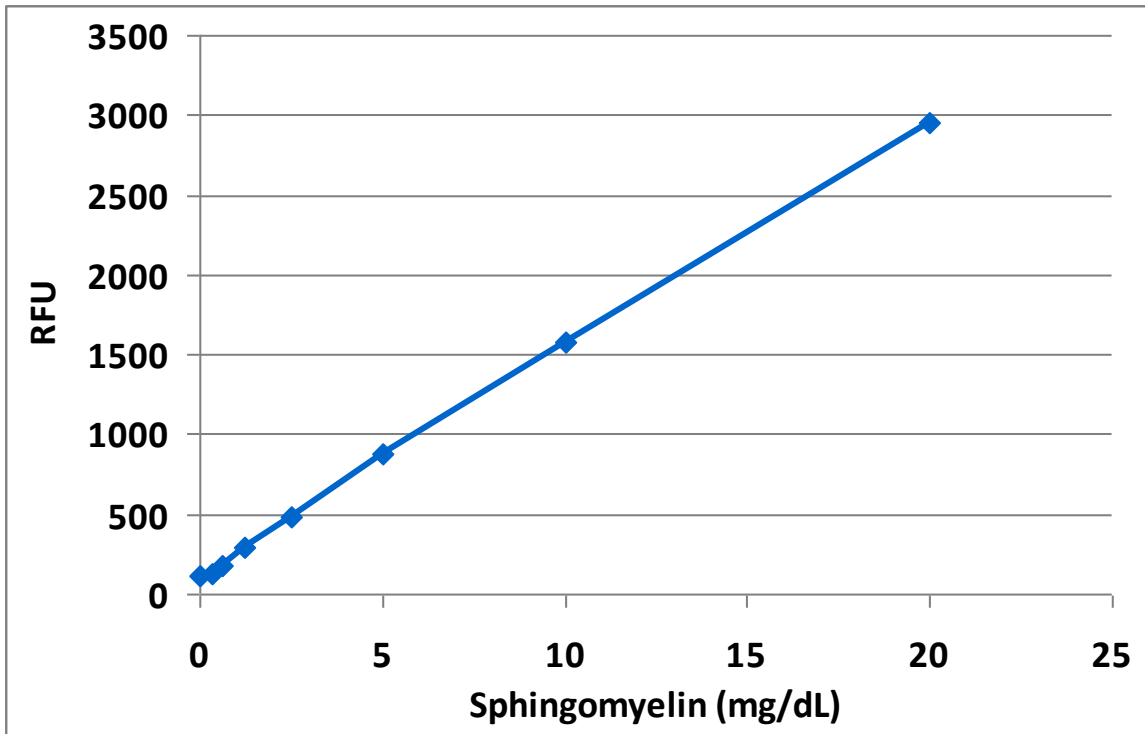

Figure 2: Sphingomyelin Standard Curve.
2. Plot the corrected fluorescence for the standards against the final concentration of the sphingomyelin standards from Table 1 to determine the best curve. See Figure 2 for an example standard curve.